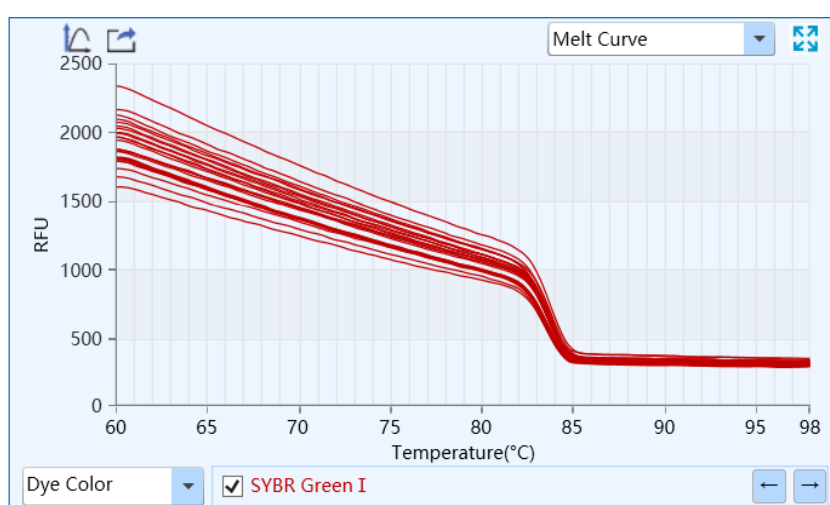

Figure D-13.1 Melting Curve analysis interface - Melting Curve functional module
I. **Melting Curve:** display the fluorescence intensity against the temperature, as shown in figure D-13.1.